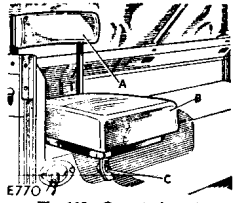

Fig. 118. Operator's seat
300. Two operators' seats are provided in 9 $\frac{1}{2}$ ton vehicles and one in 8 $\frac{1}{2}$ ton vehicles (Fig. 118). These are lightweight, quickly detachable seats which rest upon the wheel arches of the vehicle and have hooks on their backs to locate on the sides of the body.
The seats are secured, particularly for cross-country work, by means of a strap fitted to the underside of the seat which locates on a stud (Fig. 118 (C)) fitted to the side of each wheel arch; $\frac{1}{2}$ ton vehicles have a stud on the left side only.